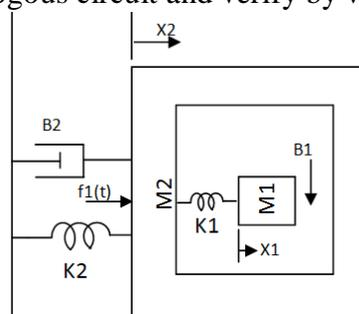

Fig.2
- (b) Write the differential equations governing the mechanical system shown in fig 2. 10M